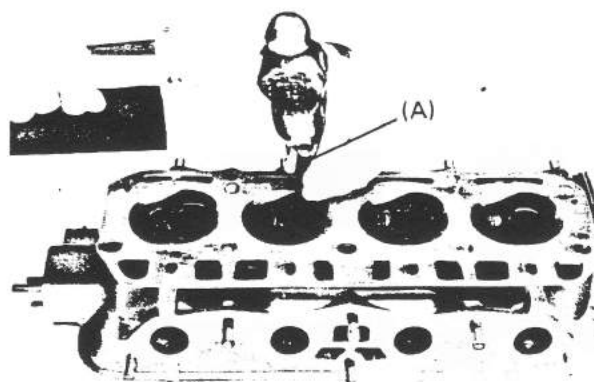

Fig. 70
- Remove the valve guide from the cylinder head and new one with a special tool (No. 0490050 VALVE GUIDE INSTALLER) (A) as shown in Fig. 70.